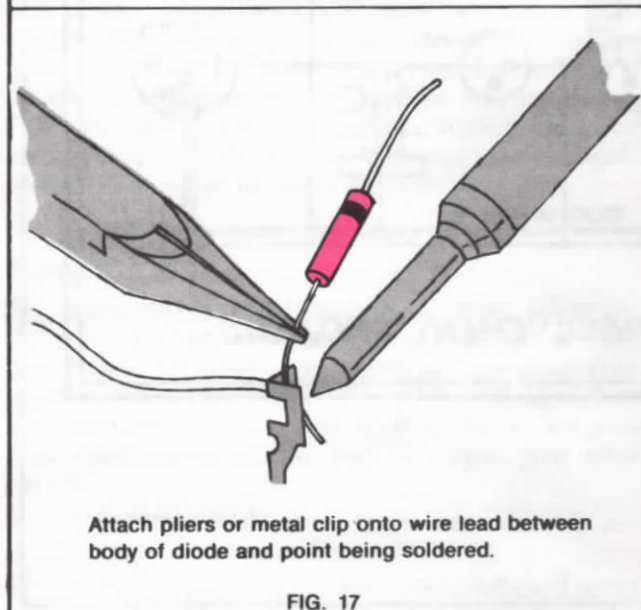

FIG. 17
voltage doubler diode CR1 to pin 3. Use a heat sink as shown in Figure 17 while soldering this lead in place. Connect and solder the other lead (anode) to bus wire B, again using a heat sink. During the AC cycle, when the cathode of this diode is negative, in respect to the anode, AC current from the line cord passes through it and charges capacitor C1.
7. Connect and solder the cathode lead (lead nearest to colored band) of voltage doubler diode CR2 to pin 4. Use a heat sink as shown in Figure 17. Connect and solder the other lead (anode) to pin 3, again using a heat sink. During the AC cycle when the cathode of this diode is negative in respect to the anode, AC current will pass through it and at the same time capacitor C1 will discharge. The voltage from both CR1 and C1 will form together to double the voltage for the voltage doubler circuit. Thus, when diode CR1 is passing current, diode CR2 is blocking
- _____a. Unsolder the anode lead of diode CR1 from bus wire B (use a heat sink on the lead when reheating to unsolder). Refer to Figure 17. Bend this lead upward, away from the other components and wires.